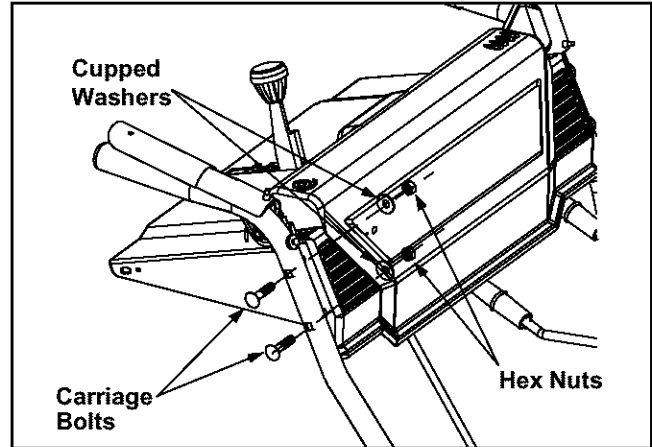

Figure 3
- Place the handle panel in position between the handles. To hold the handle panel in place, depress both controls against the handles. While continuing to hold the right control, release the left control (the auger control lock will keep left control engaged). See Figure 3.